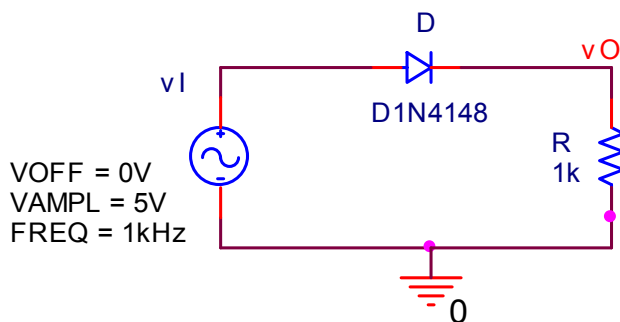
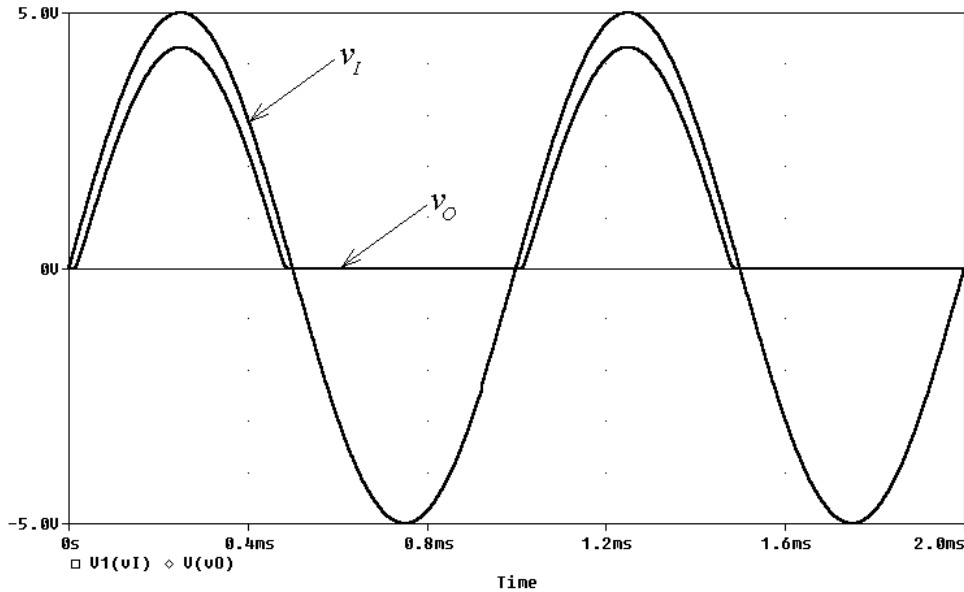
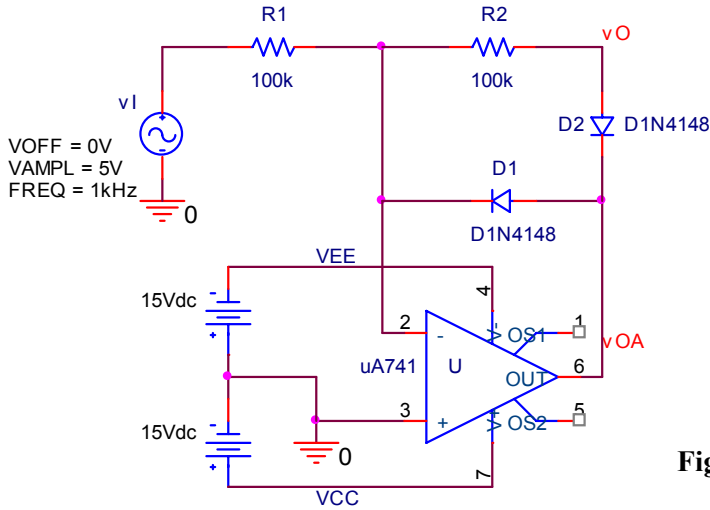
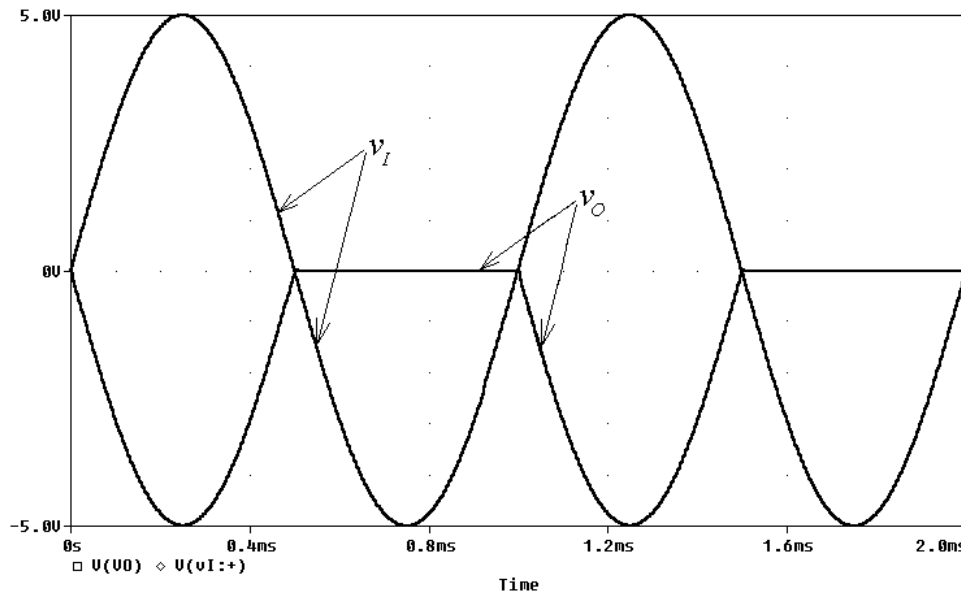

Fig. 2 – Simple *half-wave rectifier*.
Fig. 3 – Waveforms for the circuit of Fig. 2.
Fig. 10 – Precision half-wave rectifier.
Fig. 11 – Waveforms for the circuit of Fig. 10.
Diode circuits are readily simulated using PSpice. The PSpice library contains models for popular junction diodes, such as the 1N4148 rectifier diode and the 1N750 4.7-V zener diode. Figure 2 shows a PSpice circuit to simulate a simple half-wave rectifier, and Fig. 3 depicts the input and output waveforms. You can simulate this circuit by downloading its appropriate files from the Web. To this end, go to <http://online.sfsu.edu/~sfranco/CoursesAndLabs/Labs/301Labs.html>, and once there, click on PSpice Examples. Then, follow the instructions contained in the **Readme** file.
S7: By a procedure similar to that in connection with Fig. 2, simulate the circuit of Step M6 via PSpice, and plot both v_O and its RMS value V_{rms} for about half a dozen periods. To plot v_O , select the trace V(VO), and to plot V_{rms} , select the trace RMS(V(V(0))). How does this value of V_{rms} compare with the measured value of Step M6? Justify any differences.
Figure 3 indicates that the presence of the diode drop $V_{D(\text{on})}$ causes an error of about 0.7 V in the output waveform that may be undesirable especially in precision rectifier applications. This error can be nulled by placing the diode (or diodes) inside the *feedback loop* of an *op amp*. Figure 10 shows a popular *precision half-wave rectifier* using this concept. Like its basic counterpart of Fig. 2, the circuit is readily simulated via PSpice. The resulting waveforms of Fig. 11 reveal that the circuit gives
C14: Analyze the circuit of Fig. 10, and prove that Eq. (9) holds. *Hint:* You can gain additional insight by directing PSpice to plot also v_{OA} , the waveform right at the op amp's output pin.